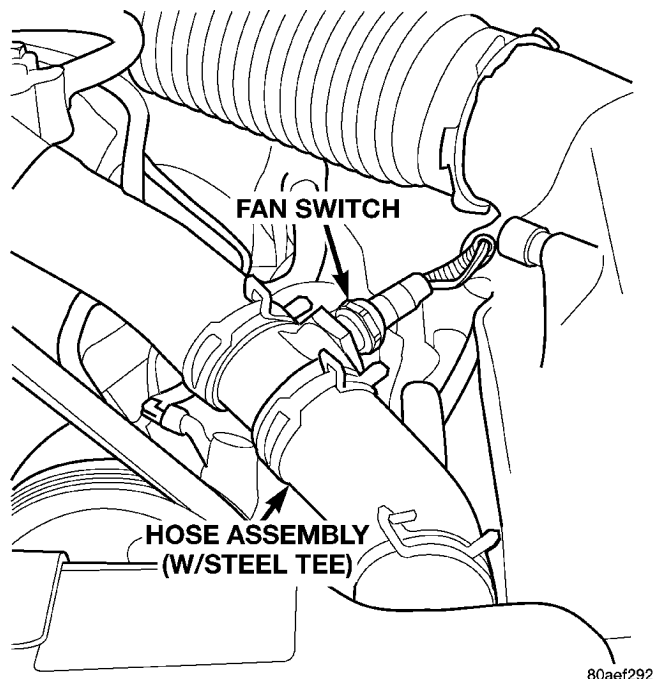
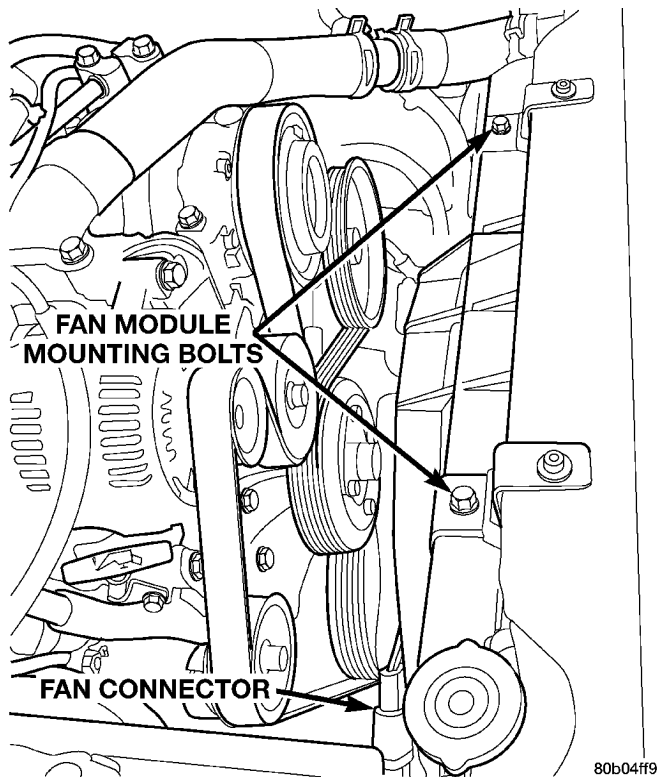

Fig. 69 Upper Hose Coolant Switch
Fig. 70 Fan Module Removal/Installation
(1) Disconnect battery negative cable.
(2) Partially drain cooling system to allow upper radiator hose removal from radiator.
(3) Disconnect upper hose coolant switch connector (Fig. 69).
(4) Remove clamp from upper hose/radiator connection and remove hose from radiator inlet only. Secure hose out of way.
(5) Disconnect the cooling fan electrical connector (Fig. 70).
(6) Remove cooling fan module mounting bolts (Fig. 70).
(1) Lower fan module into engine compartment and into its respective radiator mounts.
(2) Install fan module mounting bolts (Fig. 70) and torque to 16 N·m (140 in. lbs.).
(3) Connect fan module connector (Fig. 70).
(4) Install upper hose to radiator inlet and install clamp.
(5) Connect upper hose coolant switch connector (Fig. 69).
(6) Fill cooling system. (Refer to Filling Cooling System in this Group for the correct procedure.)
(7) Connect battery negative cable.
(8) Start engine and check for leaks. Check cooling fan for proper operation.